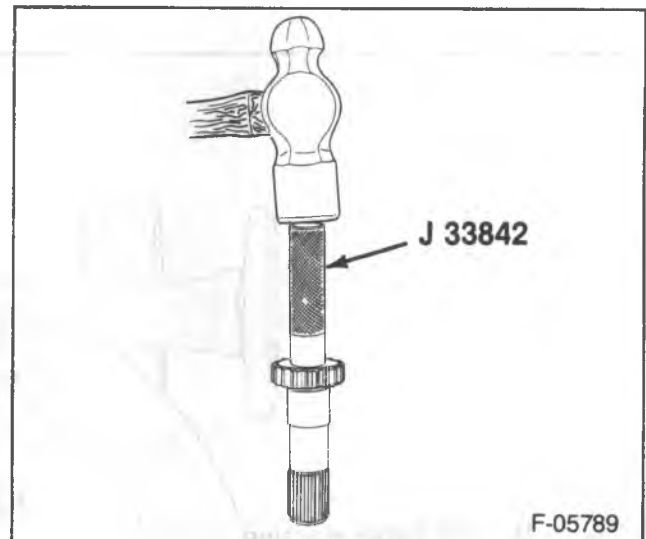
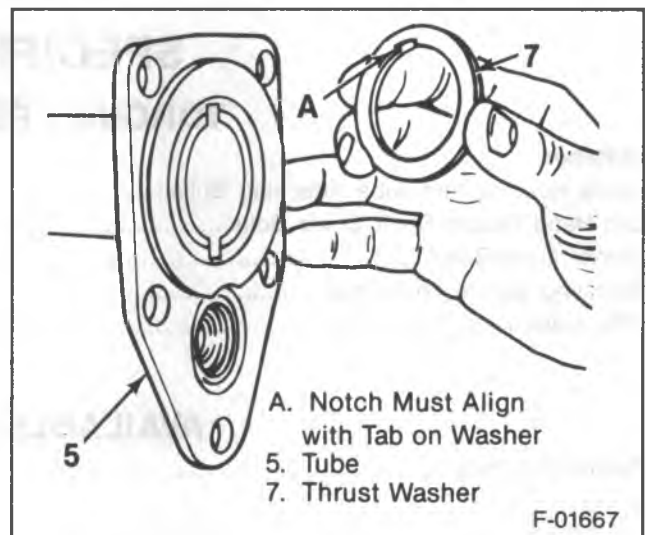

Figure 33—Installing the Differential Pilot Bearing
Figure 34—Installing the Thrust Washer
- Differential pilot bearing (21). Use J 33842 (figure 33).
- Washer (24) to the output shaft (23).
- Sleeve (22).
- Thrust washer (20). Use grease to hold it in place.
- Spring (16) and shift shaft and fork (17).
- Thrust washer (7). Use grease to hold it in place. Align the notch and tab (figure 34).
- Shaft (1) to the tube (5).
- Carrier connector (9) with retainer (8). Tap into place.
- Tube assembly (5) to the carrier.
- Two upper bolts (6). Leave finger tight.
- Shift cable housing (11) and remaining bolts (6).